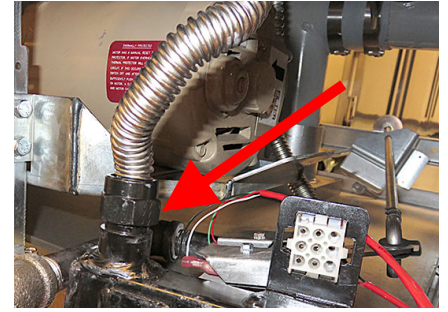

Figure 15
19. Attach the flexline from the tee in step 14 to the top of the waste dispose assembly (see Figure 15).